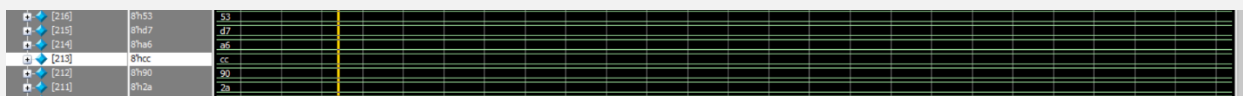

Figure 5: DOUT assigning check
- 1.5. Figure 5: DOUT Assignment